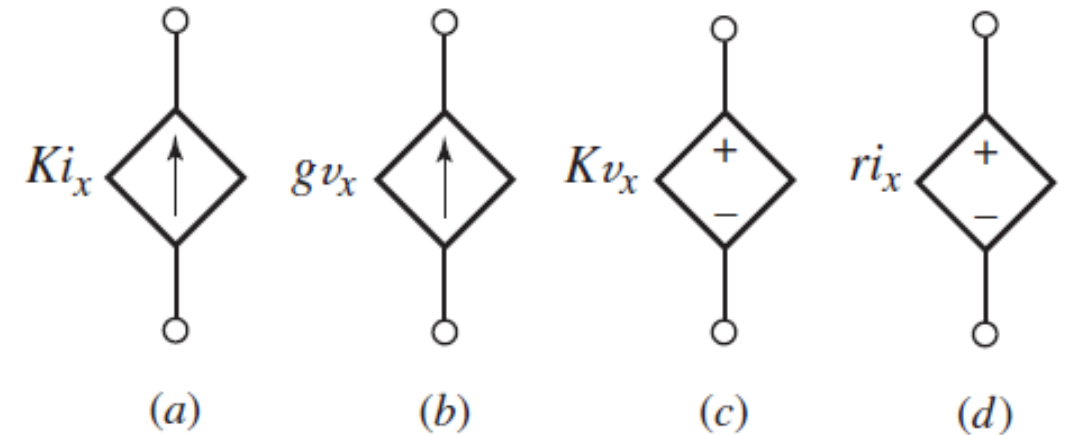

Fig. 4 Circuit symbols for the four different types of dependent sources:
- Fig. 4(d), r is a scaling factor with units of V/A